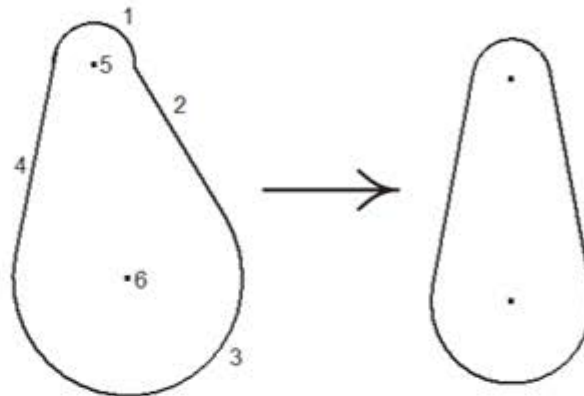

Figure 3–73
10. Which of the following sets of constraints is used to manipulate the geometry on the left to that on the right in Figure 3–73?